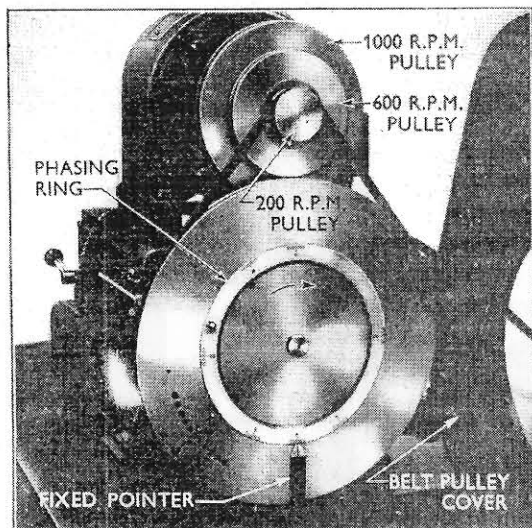

Fig. 20.
12. Remove the delivery valve, spring and volume reducer from No. 1 element. Replace the delivery valve holder, tighten all holders to a torque of 30 lbs. ft. (4.15 kg.m.) and fit the spill pipe (Tool No. CT.9023) to No.1 delivery valve holder (see Fig.20).
14. Set the arms at the lower end of the plungers fully to the left, the maximum fuel delivery position, and No. 1 plunger at the bottom of its stroke (see Fig. 20).
16. Check that when No. 1 element is at the spill cut-off position, the timing marks on the coupling and timing plate coincide (see Fig. 20). If not, re-mark the coupling or adjust the timing plate as necessary.